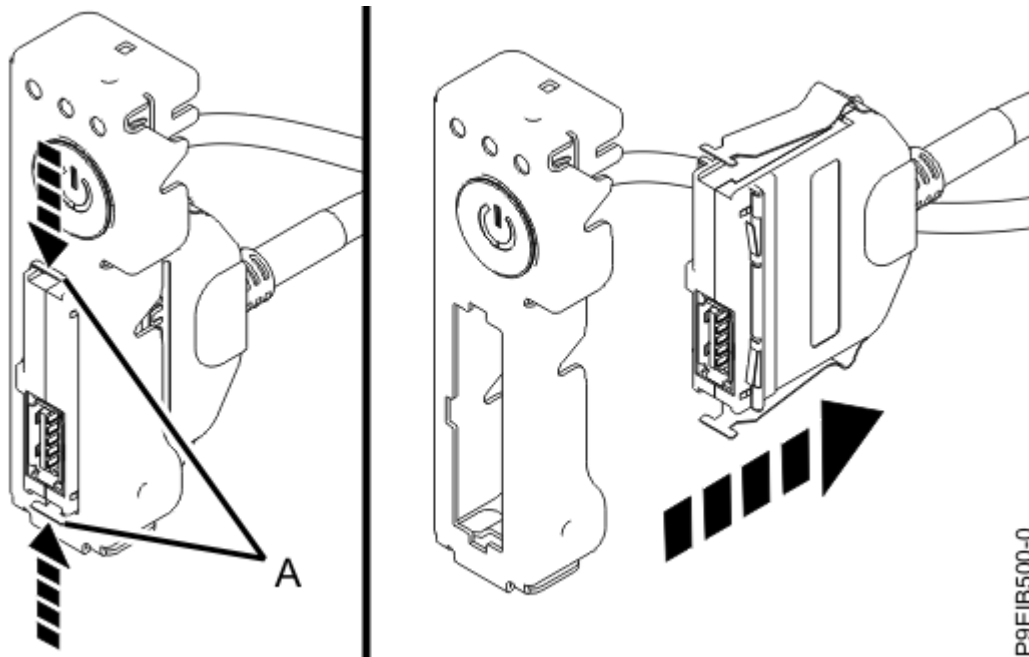

Figure 40. Removing USB cable and connector from the power switch
10. Pressing the latch releases **(A)** on the connector, disconnect the USB cable and connector from the power switch as shown in Figure 40 on page 55.